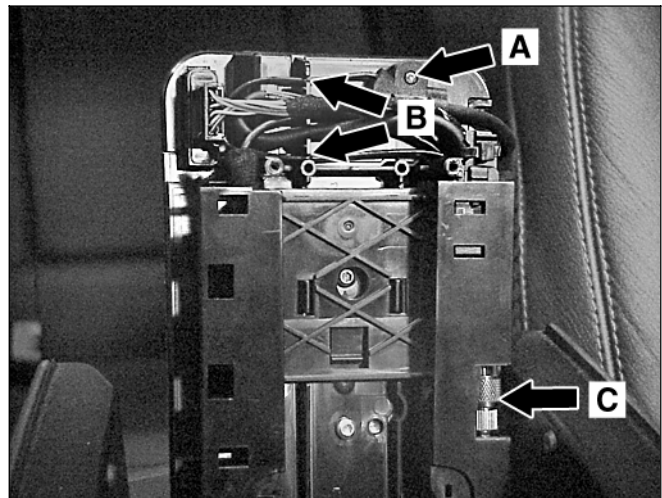

Figure 11
13. Place the coil-cord anchor over the base plate peg (A, Figure 11).
14. Route the mini-UHF coaxial cable through the outer channels of the base plate (B, Figure 11).
15. Connect the mini-UHF coaxial connectors and place the connector assembly in the holding-clip (C, Figure 11).